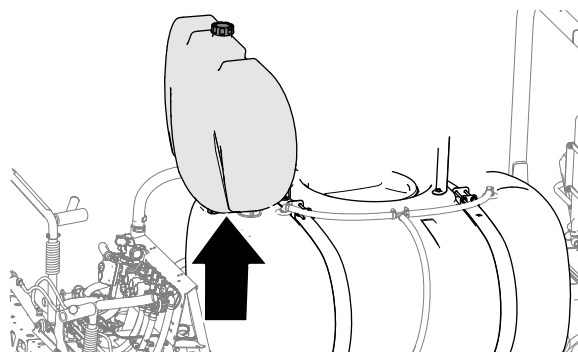

Figure 5
- Remove the rinse tank from the machine (Figure 5).